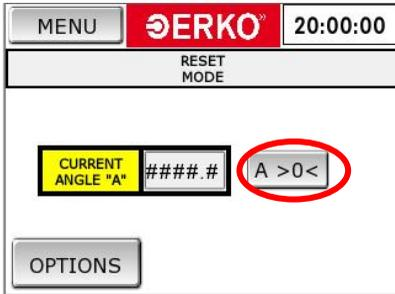
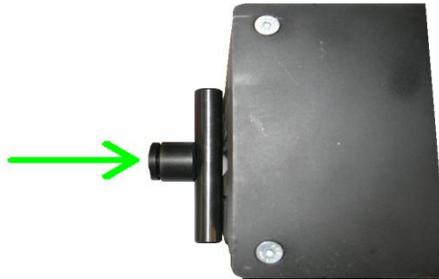

Fig. 17.
Fig. 18.
- Using a flat element, adjust the levers in the parallel position to the measuring insert body (fig. 18). Holding the immovable levers, press the "Reset" button on the panel (fig. 17).